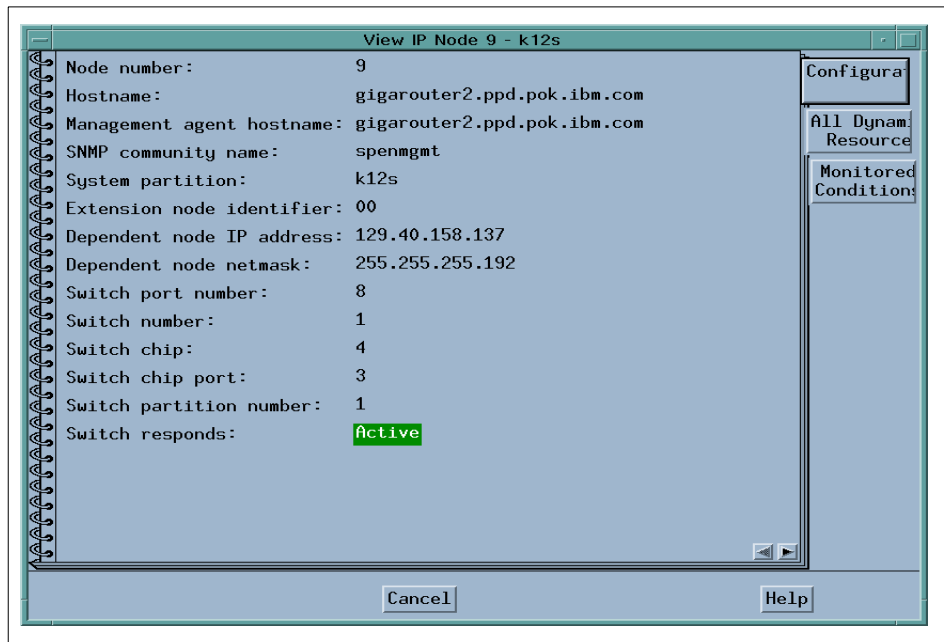

Figure 22. Hardware Notebook
Figure 22 shows the IP Node hardware notebook. This notebook can be triggered by selecting the **Notebook** icon on the Hardware Perspective toolbar (2), or selecting **Action->Nodes->View** in the menu bar (1).